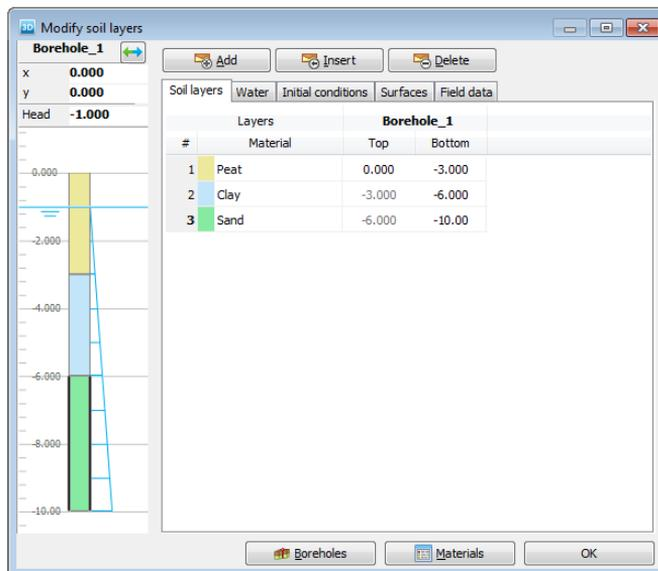

Figure 4.2 Soil layer distribution
- Define three soil layers as shown in Figure 4.2.
- Create soil material data sets according to Table 4.1 and assign them to the corresponding layers in the borehole (Figure 4.2).